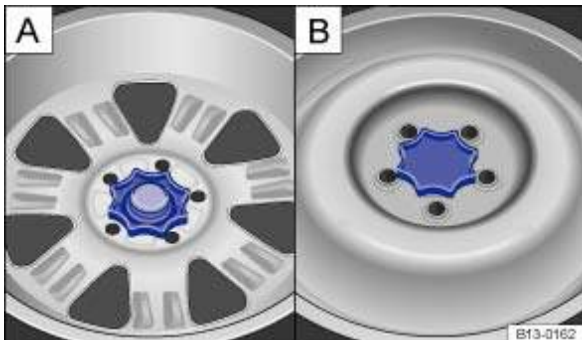

Fig. 177 In luggage compartment: A: handwheel for securing spare wheel, B: handwheel for securing temporary spare wheel
- Completely unscrew the handwheel in the middle of the spare wheel → Fig. 177 A or the temporary spare wheel **B** anticlockwise and remove spare wheel or temporary spare wheel.